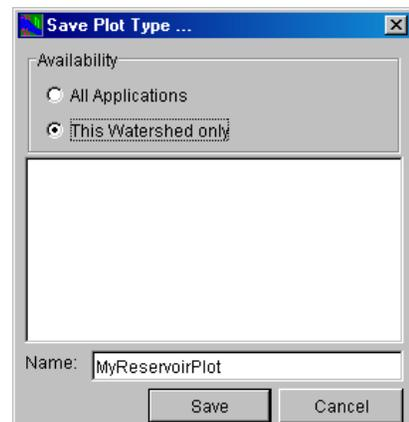

Figure 14.27 Save Plot Type ...
1. From the **Plot** menu on the plot that appears, select **Save Plot Type...** The **Save Plot Type** dialog box will appear (Figure 14.27). You can specify whether you want this User Defined Plot to be available to **All Applications** or to just **This Watershed only**. Enter a **Name** for the plot.